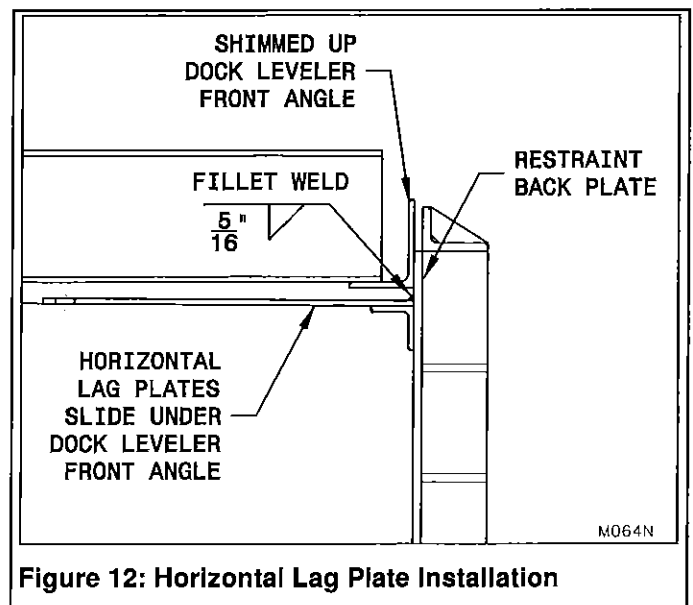

Figure 12: Horizontal Lag Plate Installation
- a) If there is a gap (as a result of shimming the dock) between the front angle of the dock leveler and the dock leveler pit floor of $\frac{1}{4}$ " or more, place the horizontal lag plates onto the dock leveler pit floor, directly behind and perpendicular to the back plate of the restraint, and slide the horizontal lag plates under the front angle of the dock leveler until they butt up against the back plate of the restraint. See Figure 12, page 14. (If no gap is present, proceed to item 1.g) and follow the Pour-In Dock Leveler instruction.)
- d) Pull the restraint away from the wall and place a minimum 5/16" fillet weld the full width of the horizontal lag plate to the back plate of the restraint. See Figure 12, page 14.
- f) Proceed to item 2, page 16.